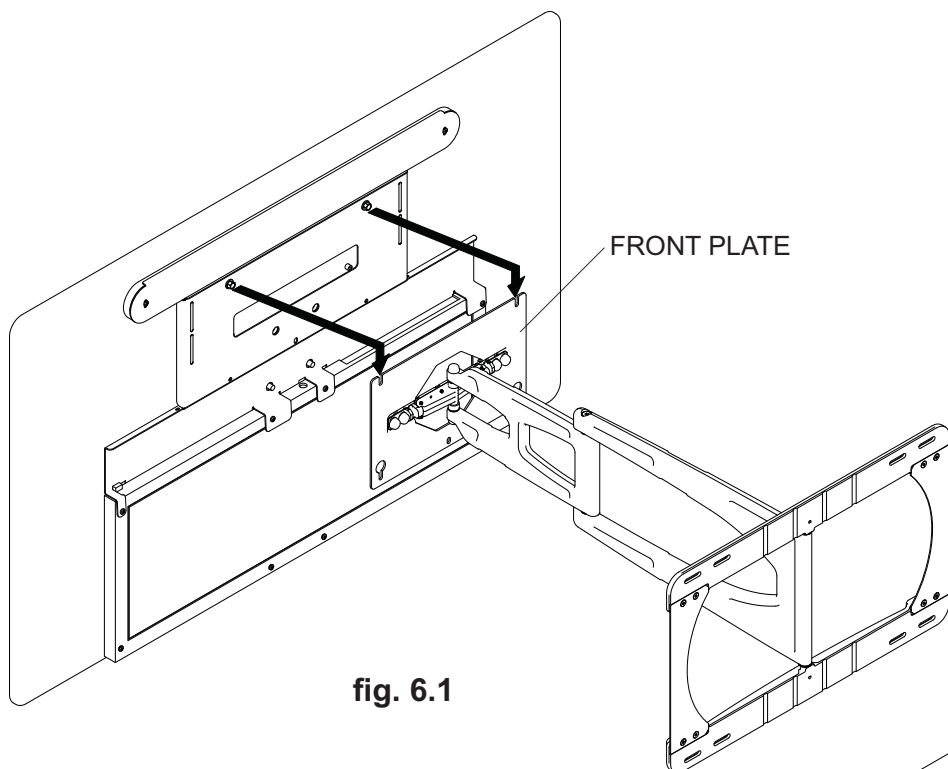

fig. 6.1
- 6** Hook two 1/4-20 x 1/2" thread forming screws (L) onto top slots of front plate as shown in figure 6.1.